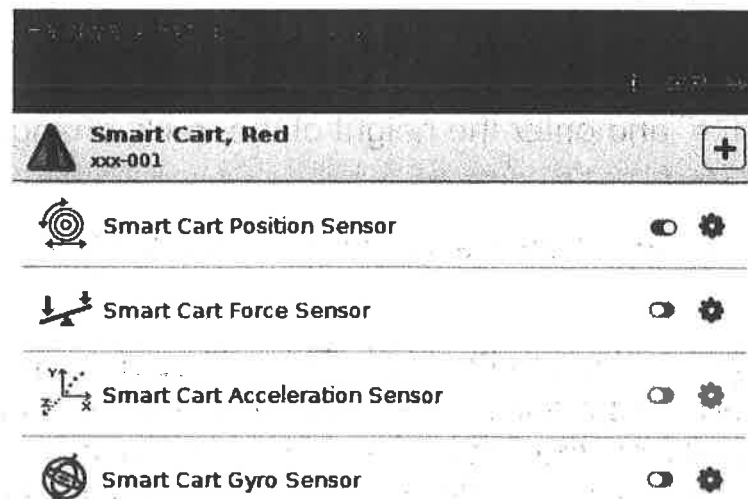

Figure 3: Setting Up the Smart Cart
- I.13. Disable all but the "Smart Cart Position Sensor" (Figure 3). Note that this and the previous step cannot be done without Capstone software running.